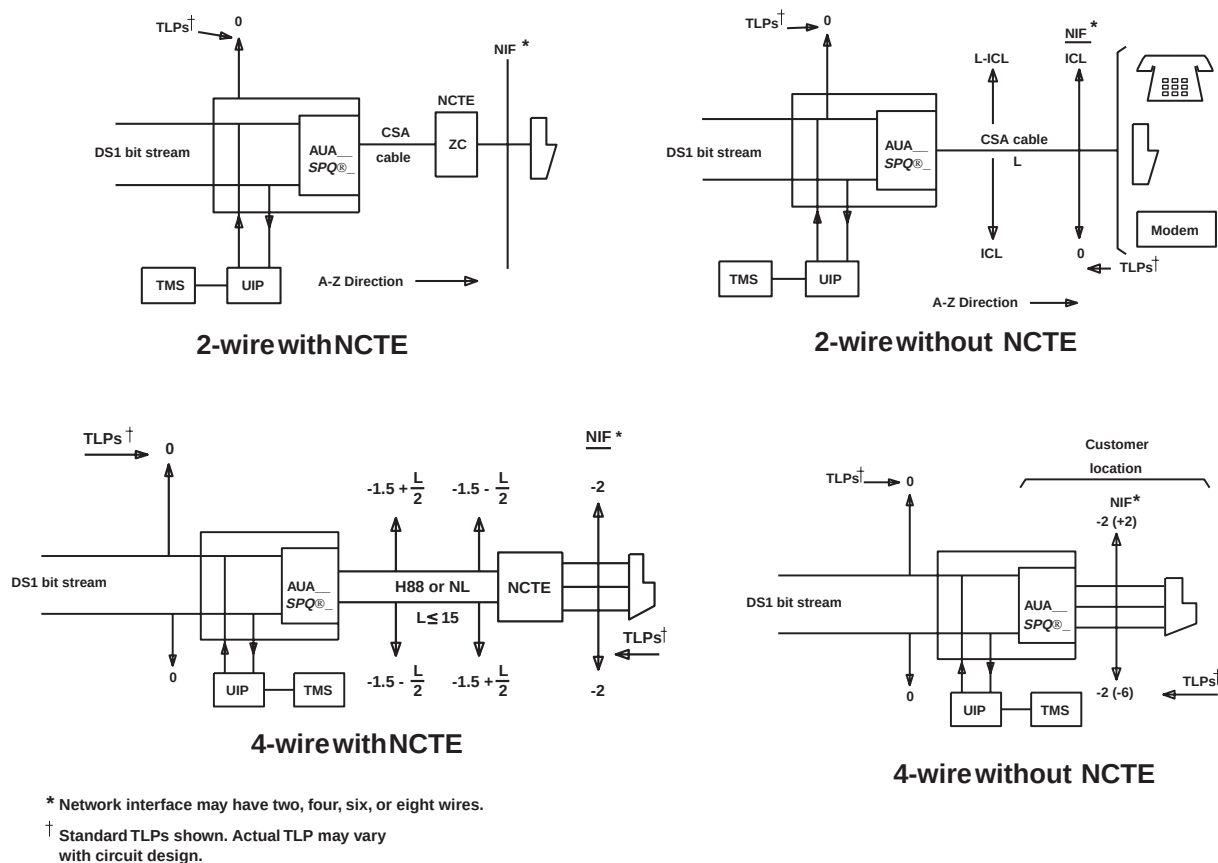

Figure 2 – 2-Wire and 4-Wire Loop With or Without NCTE
2. Figure 2 shows the channel layout for the tests that follow. Refer to the circuit layout information or work order record detail (WORD) document for circuit details.